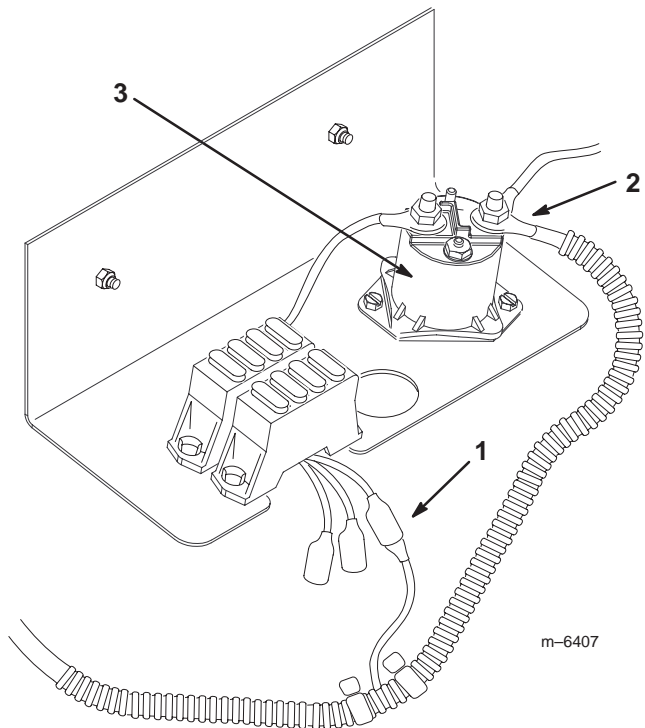

Figure 7
5. Connect the blue connector to a 25 amp fuse position on the fuse block (install a 25 amp fuse in the position if there is no fuse) (Fig. 7).
6. Connect the eye-ring terminal on the red wire to the positive terminal (terminal with the wire running directly to the battery) on the starter solenoid near the battery (Fig. 7).